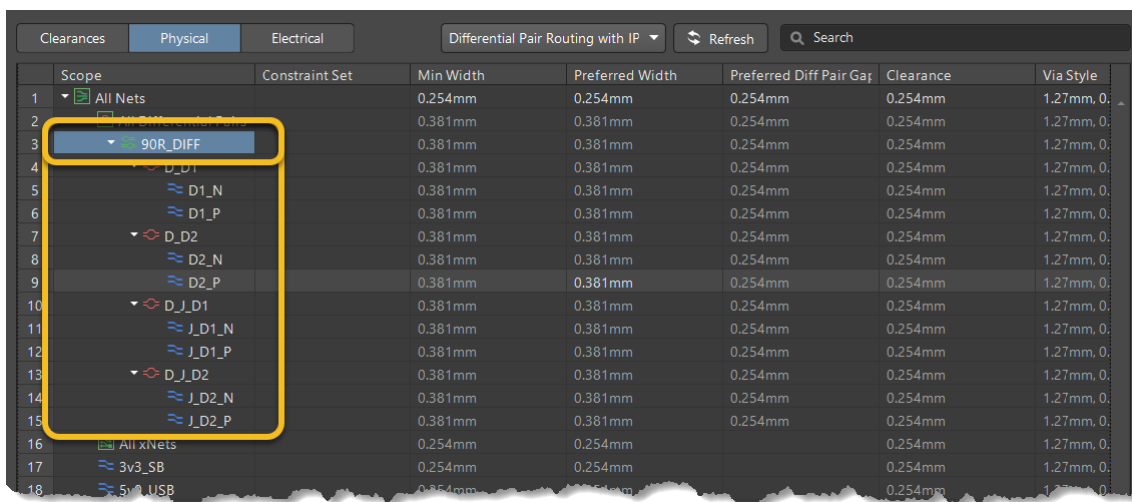

Figure 8. Physical View with `90R_DIFF` class
26. Back in the *Constraint Manager*, you see the updated *Physical* view with the `90R_DIFF` Differential Pair class listed, Figure 8.